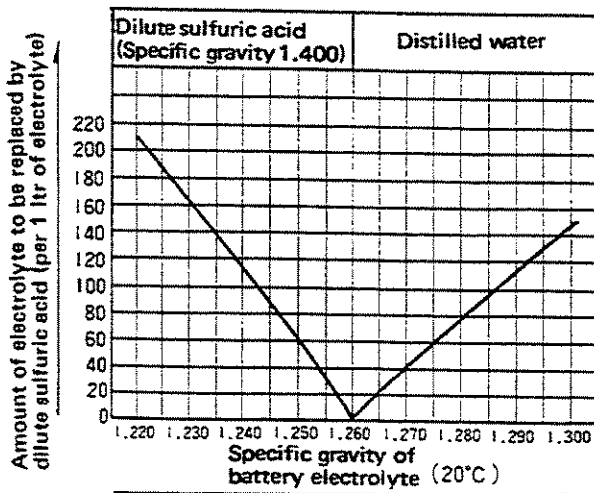

Fig. 5-23
3. Relationship between ratio of dilute sulfuric acid to water and specific gravity is diagrammatically represented in Fig. 5-23.